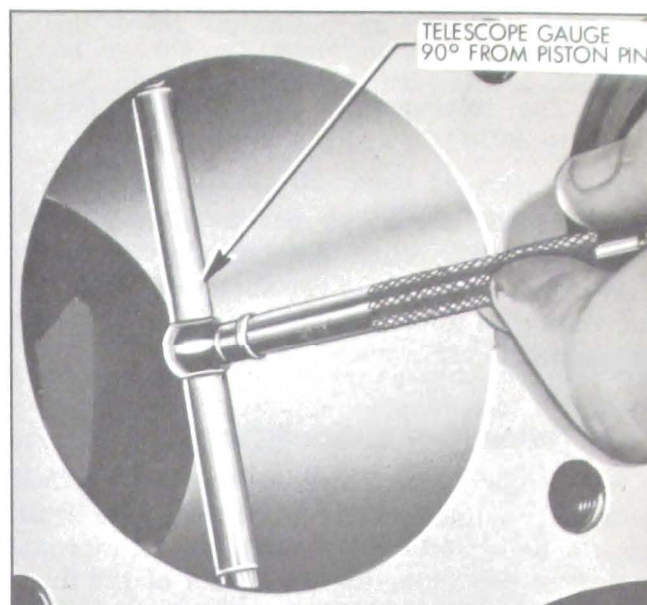

Figure 2-35—Using Telescope Gauge in Cylinder Bore
piston pin (Figure 2-35) then select the smallest piston for the first fitting. The slight variation usually found between pistons in a set may provide for correction in case the first piston is fitted too free.
1. Expand a telescope gauge to fit the cylinder bore at right angles to the piston pin and between 1-1/2" and 2" from the top of the bore. See Figure 2-35.